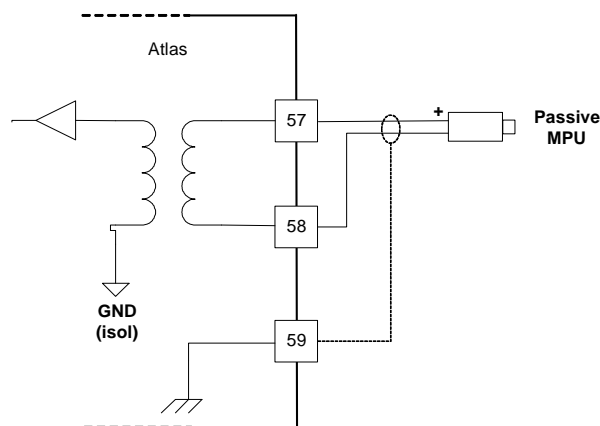

Figure 5-4. Wiring Example—MPU Interface to the Analog Combo Board
- Refer to Figure 5-4 for speed sensor wiring.